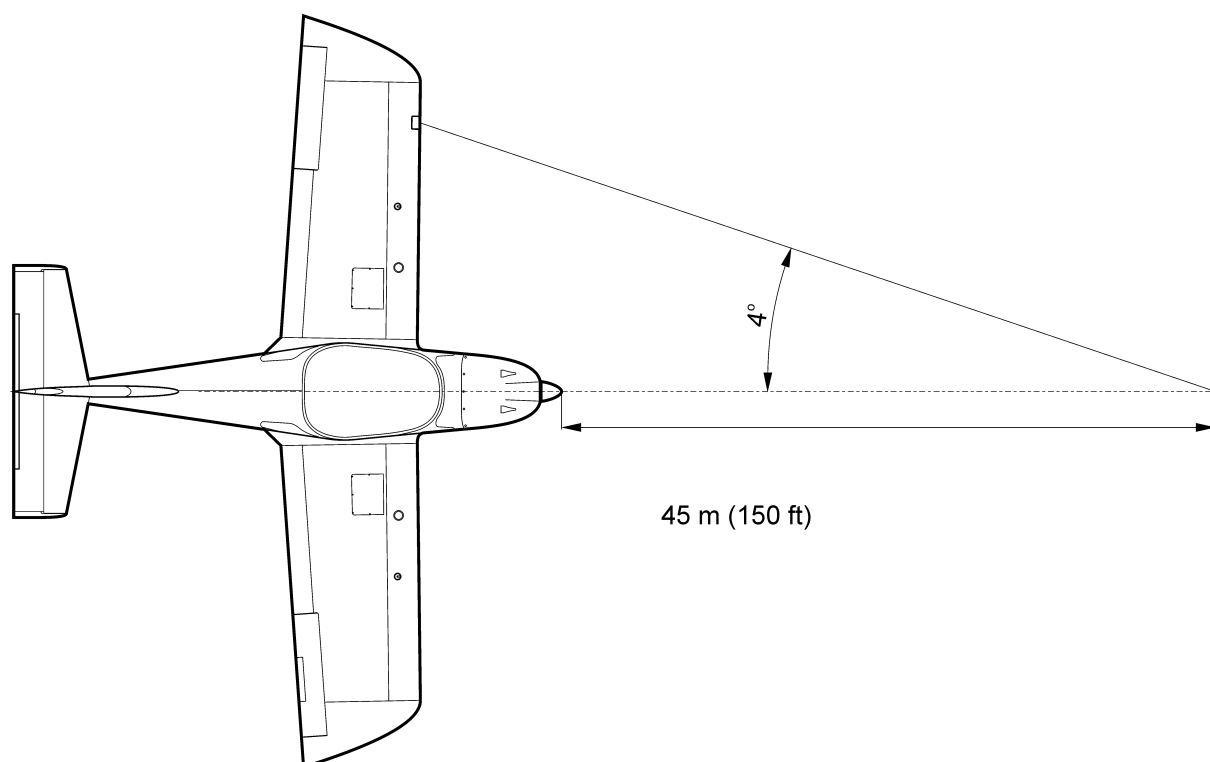

Fig. 11-5: Setting the optional wing landing light
- Do adjustment in the horizontal direction according to the Fig.11-5 in such a way that the light axis is directed towards the airplane axis about 45m (150 ft) before the fuselage nose.